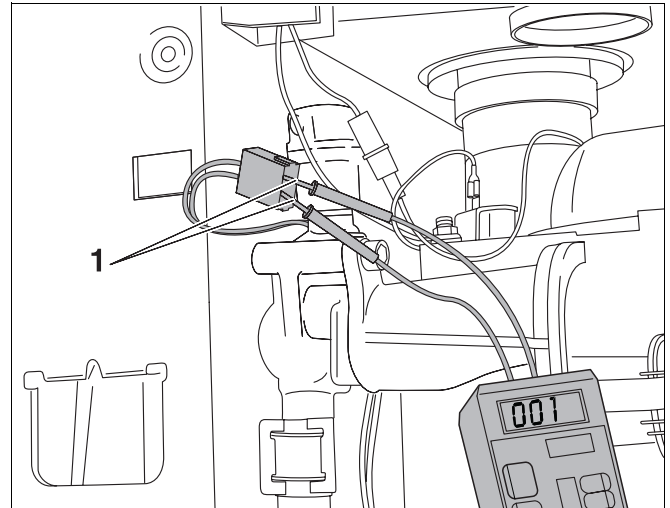

Fig. 64 600 Series 11S / 19S / 24S / 24C:
- Measure resistance of sensor (fig. 64, item 1).